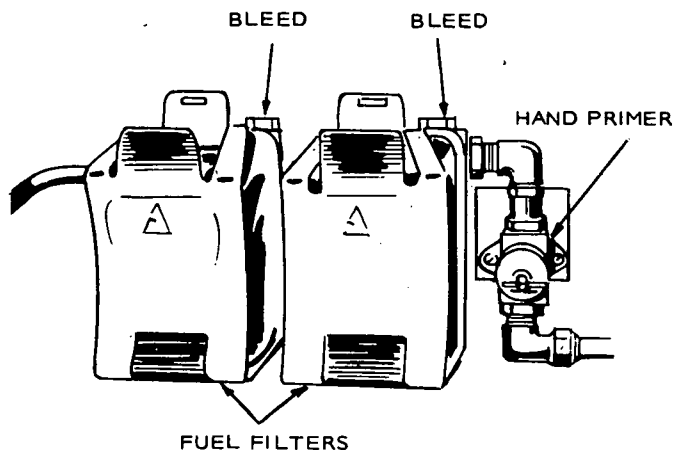

FIGURE 22. PRIMING FUEL SYSTEM
Figure 22 shows load connections for 120/208 voltage. Other voltages are available from either parallel wye or series wye illustration.
3. Loosen locking screw on top of hand primer plunger and release clamp. See Figure 22.